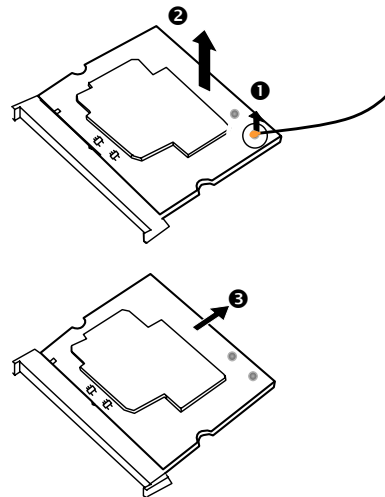

Figure 2-12 Remove the TV card
3. Disconnect the TV card's antennae first (❶). Then pull up the TV card (❷) and remove the TV card (❸). (Figure 2-12)